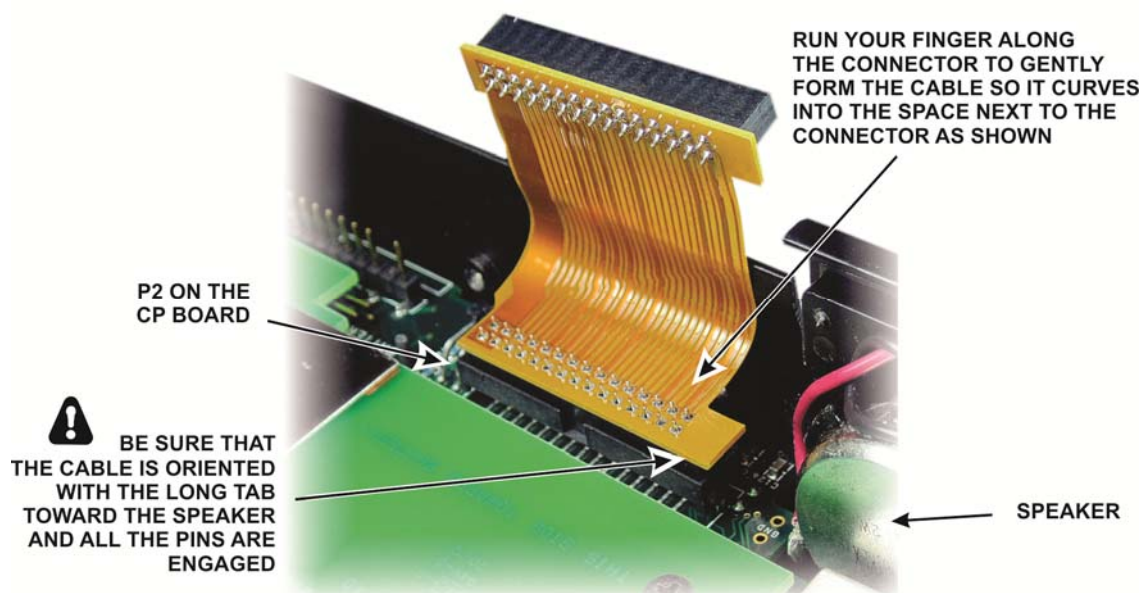

Figure 49. Plugging the Flex Cable into the CP Board.
- Plug the flex cable into P2 on the CP board as shown in Figure 49. Be sure it is oriented with the long tab on the cable toward the speaker as shown.
⚠ CAUTION: As you close the covers ensure that the flex cable folds into the space next to the CP board connector as shown. Do not allow it to fold toward the battery holders. If the flex cable resists pushing into the space next to the CP board connector, use your finger to gently crease it along the edge of the connector as shown in Figure 49.